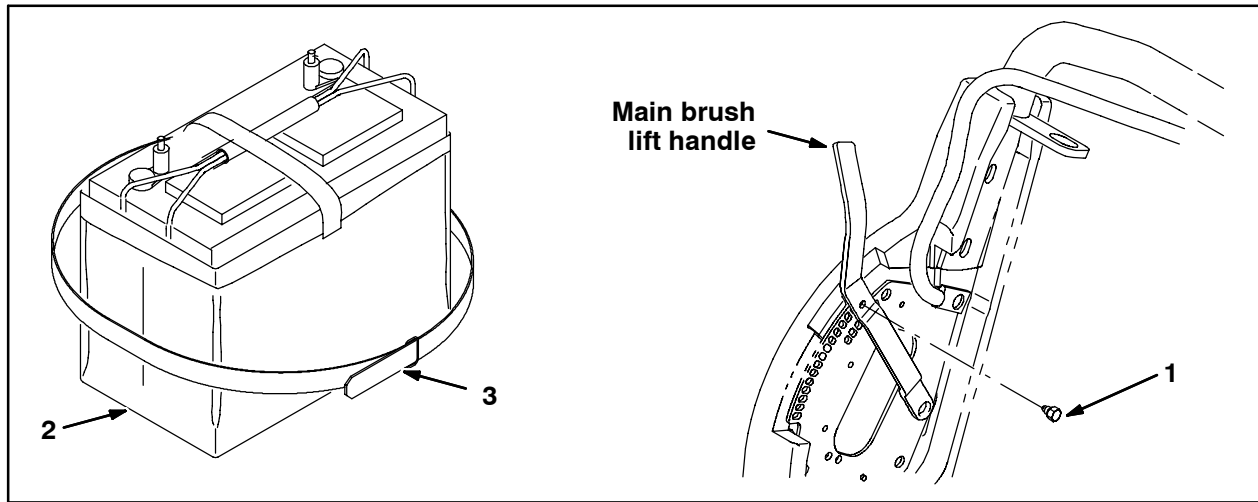

FIG. 1
1. Place each battery into a battery bag (2). Refer to Fig. 1.
4. Install the carpet sweep bolt (1) into the main brush lift handle. **Do not** attempt to sweep carpet before installing the carpet sweep bolt. Refer to Fig. 1.
5. Install a brush (4) onto the machine if installing Kit, CI, Carpet Sweep, 130AH (With Brush) or Kit, CI, Carpet Sweep, 215AH (With Brush).